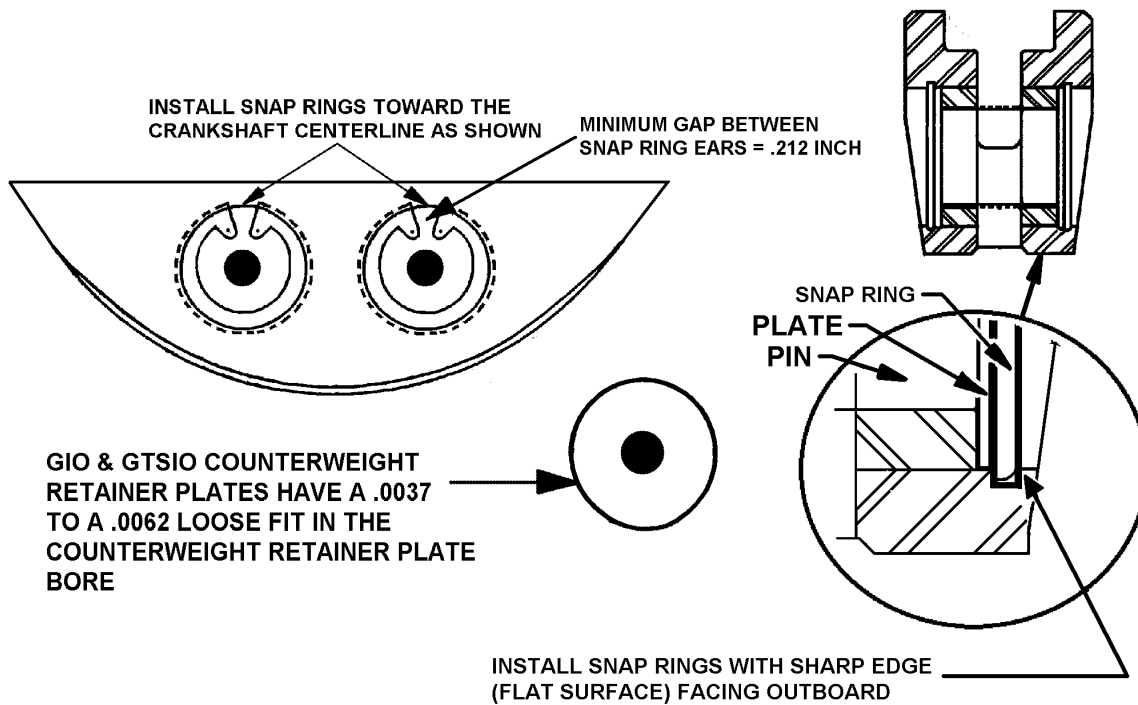

FIGURE 5
The snap rings and retainer plates must be installed as shown in Figure 5.
3. Visually and dimensionally inspect all snap rings to insure the snap ring is correctly installed and fully seated in its groove. See Figure 5.